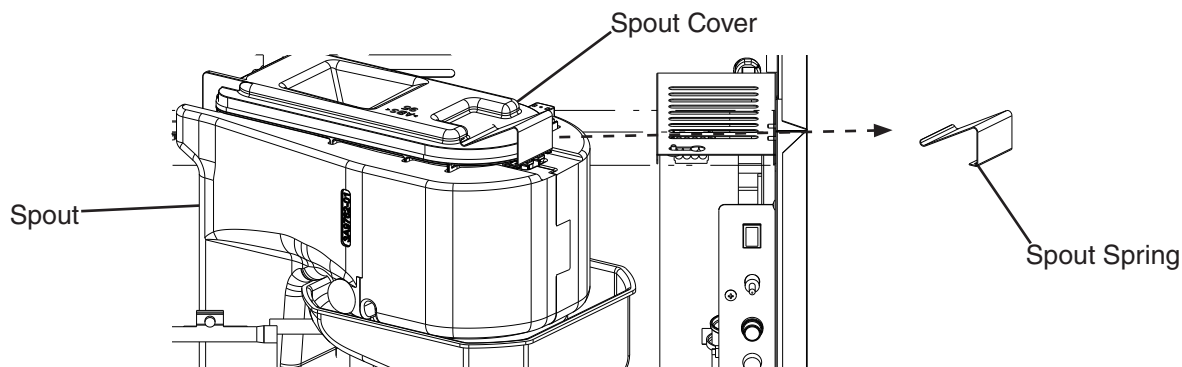

Fig. 4
- 8) CB "GM" and "COMP" LEDs are on. Use an object to cover BC1 lens at the bottom of the icemaker. If the bottom of the icemaker is not accessible in your application, remove the thumbscrew securing BC1 housing, remove the housing from the base, then cover BC1 lens. See Fig. 4. The yellow LED on BC1 turns on (flashing or steady). The yellow LED flashes when ice is at the outer limit of its range and turns steady as ice nears. After the yellow LED turns on (flashing or steady), BC1 shutdown delay timer starts. See "III.B.2. BC1 (Infrared Sensor) Shutdown Delay (S1 dip switch 1, 2, 3)."
- 3) Remove the spout spring from the spout. See Fig. 4.
- 5) While not necessary, the floats can be removed from the shaft during cleaning. If you remove them, note that the blue float is on top (UFS) and the white float is on bottom (LFS). The floats must be installed with the magnets inside them towards the top of the switch. See Fig. 4. Installing the floats upside down will affect the timing of FS operation.